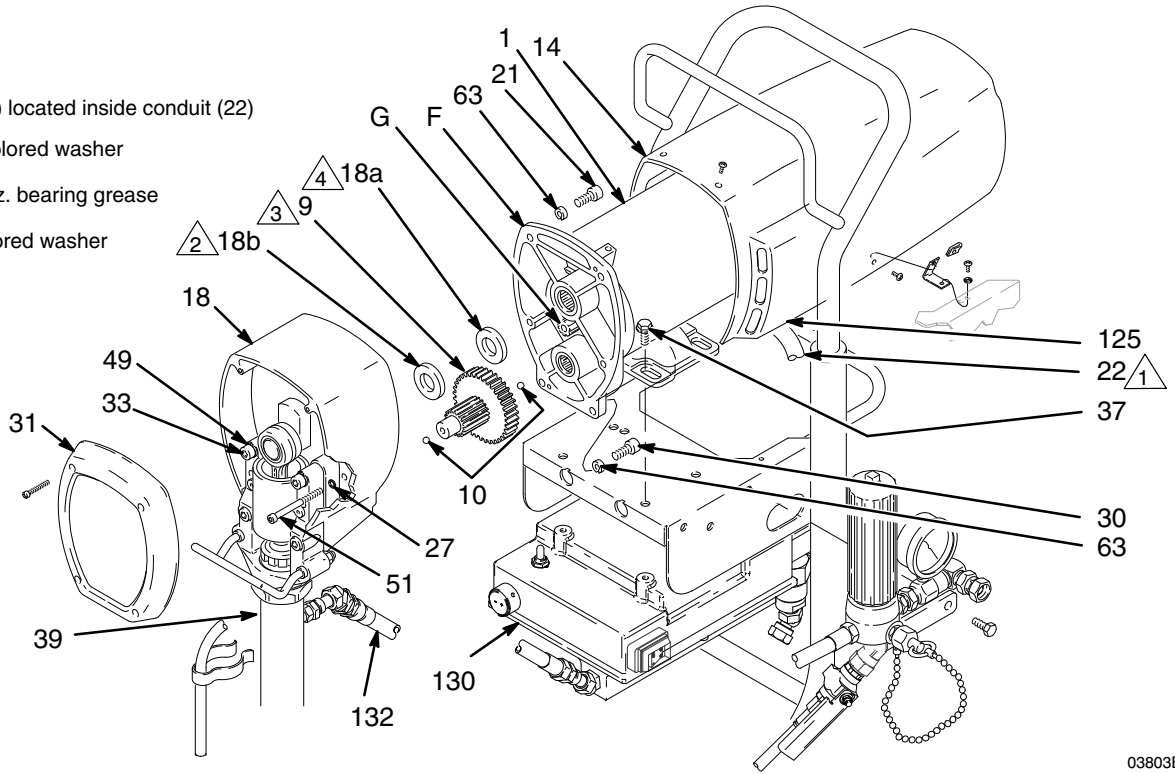
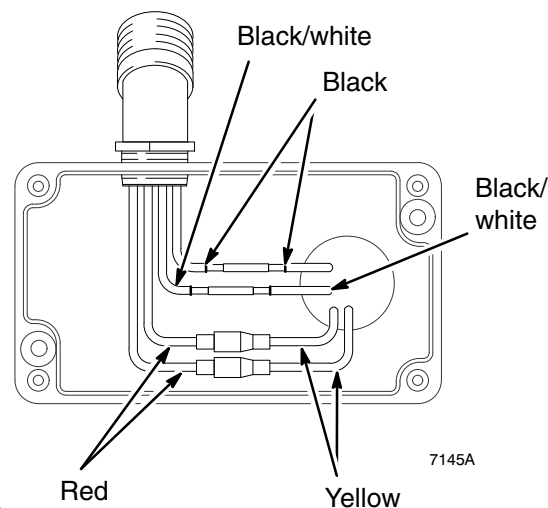

Fig 13
Fig 14
**NOTE:** Refer to Fig 13 and parts list except where noted.
2. Remove motor shield (14) and front cover (31). Disconnect hose (132).
3. Remove outlet cover on pressure control wiring box. Disconnect four motor leads. See Fig. 14.
4. Unscrew conduit fitting (125) from motor and pull four motor leads from conduit (22).
5. Remove screws (51) from drive housing. Remove screws (21 and 30) from motor (1).
6. Tap rear of pump (39) with plastic mallet to loosen drive housing (18) from motor (1). Pull off drive housing.
- NOTE:** Do not drop the gear cluster (9), which may stay engaged in the motor bell or in the drive housing. Do not lose the thrust balls (10) or drop them between the gears. The balls usually stay in the shaft recesses, but they can be dislodged. If the balls are not in place, the bearings will wear prematurely.
7. Lower pressure control (130) by unscrewing motor mounting screws (37).
8. Lift off motor (1).
9. Mount and center new motor on frame and attach pressure control (130) with motor mounting screws (37).
10. Insert motor leads through conduit fitting (125) and conduit (22) to pressure control. Screw connector (125) two or three threads into motor. Tighten locknut up to motor. Connect four motor leads. See Fig. 14.
11. Liberally grease gear cluster (9) and pinion gear (G). Pack all bearings in motor bell. Be sure thrust balls (10) are in place.
12. Place bronze-colored washer (18b) and then silver-colored washer (18a) on shaft protruding from big gear in drive housing (18).
13. Align gears and push drive housing (18) straight onto motor bell (F) and locating pins.
3. Loosen outlet cover on pressure control wiring box and disconnect wires. See Fig 14.
4. Loosen black conduit (22) from pressure control fitting and pull out wires
5. Remove hose (132), 45° swivel union (131), check valve (42), and nipple (59) from rear of pressure control (130).
6. Remove hose (134) and 45° swivel union (131) from front of pressure control (130).
7. Support pressure control from falling(130) and carefully remove motor mount screws (37). Remove pressure control.
8. Install new pressure control (130) with screws (37).